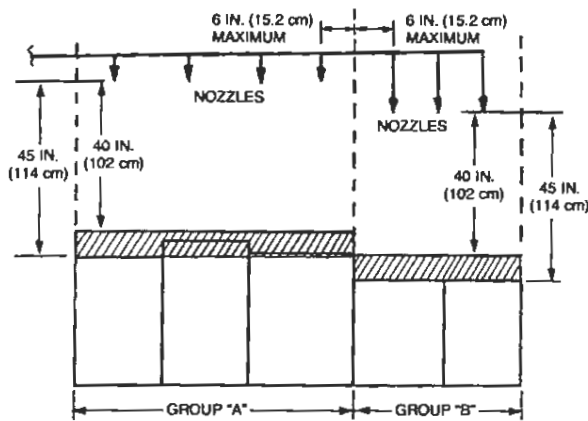

FIGURE 91h
- 4. On protected appliances, all hazard surfaces located in a group must be within 40-45 in. (102-114 cm) from the nozzle(s). Once that dimension is exceeded, a new group must be started. See Figure 91h.